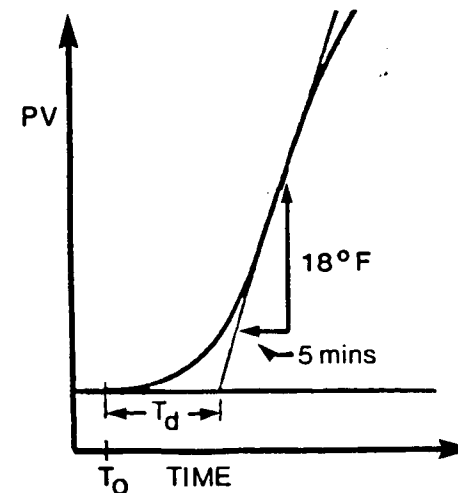

Figure 4-10. System Time Delay
The following procedure is a graphical technique of analyzing a process response curve to a step input. It is much easier with a strip chart recorder reading the process variable (PV). Refer to Figure 4-10.
- Draw a line from the point of maximum slope back to the ambient temperature axis to obtain the lumped system time delay  $T_d$  (see Figure 4-10). The time delay may also be obtained by the equations:
EXAMPLE: The chart recording in Figure 4-10 was obtained by applying full power to an oven. The chart scales are  $10^\circ\text{F}/\text{cm}$ , and  $5 \text{ min}/\text{cm}$ . The controller range is  $100\text{--}600^\circ\text{F}$ , for a span of  $500^\circ\text{F}$ . Maximum slope =  $18^\circ\text{F}/5 \text{ minutes} = 3.6^\circ\text{F}/\text{minutes}$